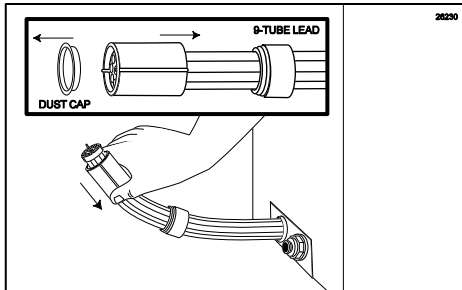

Figure 120
1. Locate the 9-Tube Lead at the back of the cabinet. Remove the dust cap and slide the coupler casing toward the unit to expose the lead line coupler. (See Figure 120.)